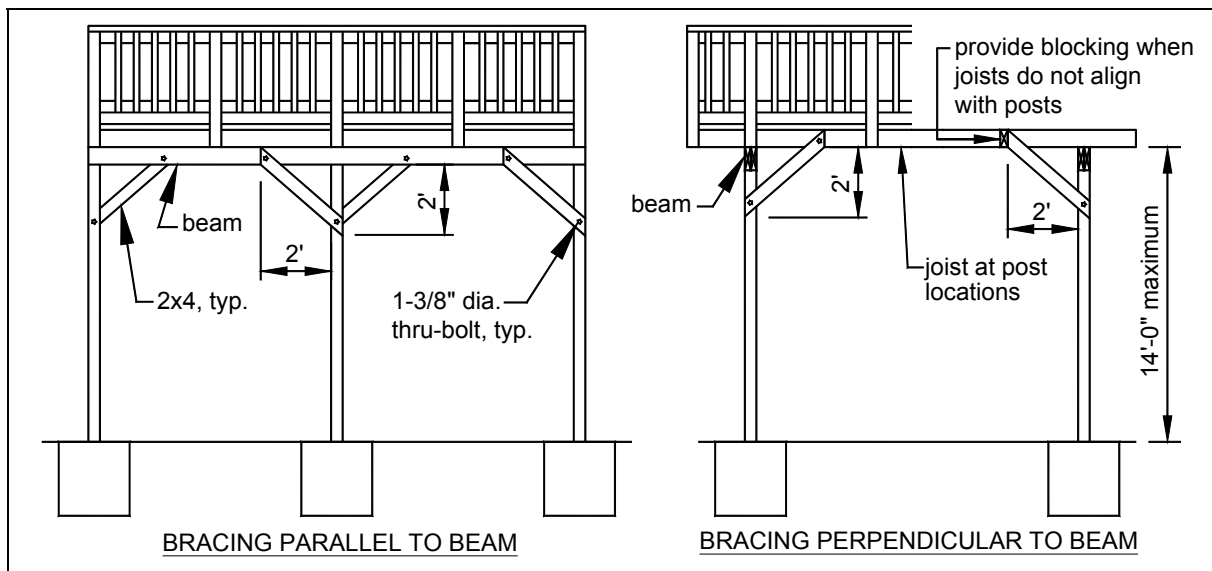

FIGURE 14: DIAGONAL BRACING REQUIREMENTS
1. **Diagonal Bracing:** provide diagonal bracing as shown in FIGURE 14. Bracing shall be located between posts parallel to beams and bolted to the beam and post as shown. Diagonal bracing shall also be located perpendicular to beams and, in such cases, bracing shall be bolted to the post and joist above the post location.